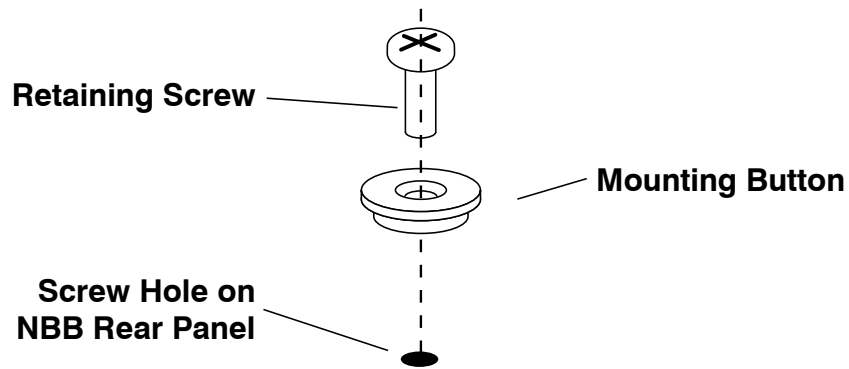

Figure 2: Attaching Mounting Buttons to the Vertical Mount Power Device
2. Install two Mounting Button in the holes selected in Step 1 above. Refer to Figure 2 below for further details regarding assembling the Mounting Buttons and attaching them to the vertical power device.